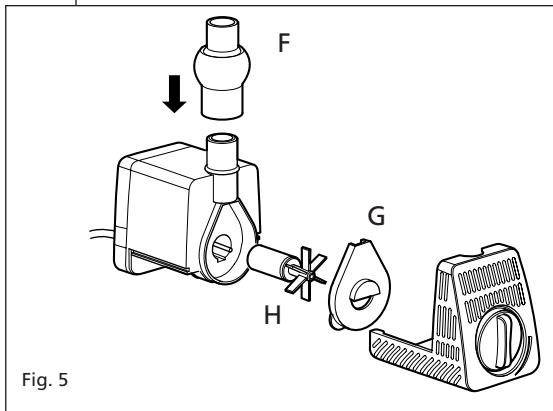

Fig. 5
- The ball joint - See Fig 5 (F), fits onto the pump outlet and the telescopic stem pushes onto the top. This can then be used to adjust the fountain angle so that it is vertical.
- Release the Chamber Front Plate, by unsnapping it from the Motor Body. See Fig 5 (G).
- Pull the Rotor Assembly out of the Motor Body. See Fig 5 (H).